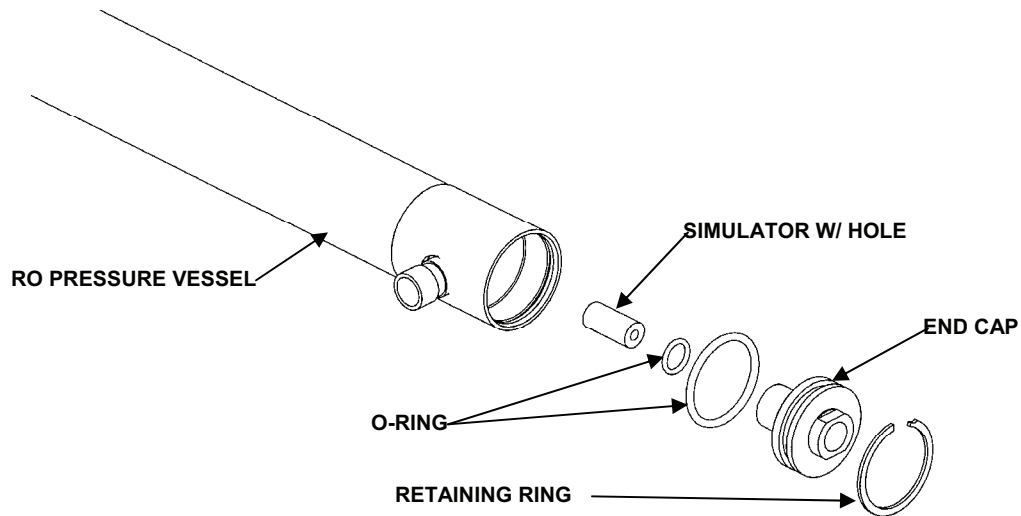

Figure 9. Pressure Vessel 1 With Simulator.
1. Pressure vessel numbers (1-5) should contain the simulators with a hole. See Figure 9.